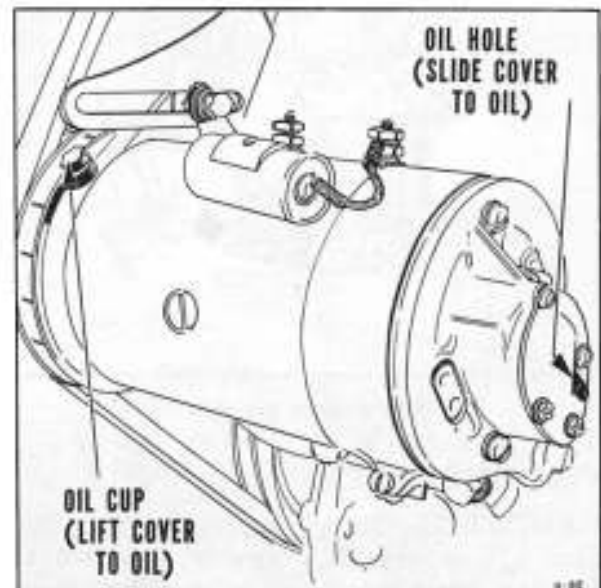

Fig. 2—Generator
**GENERATOR**—Lubricate generator bearings every 1000 miles—ten drops of seasonal engine oil in front and rear oil cups. (Fig. 2)